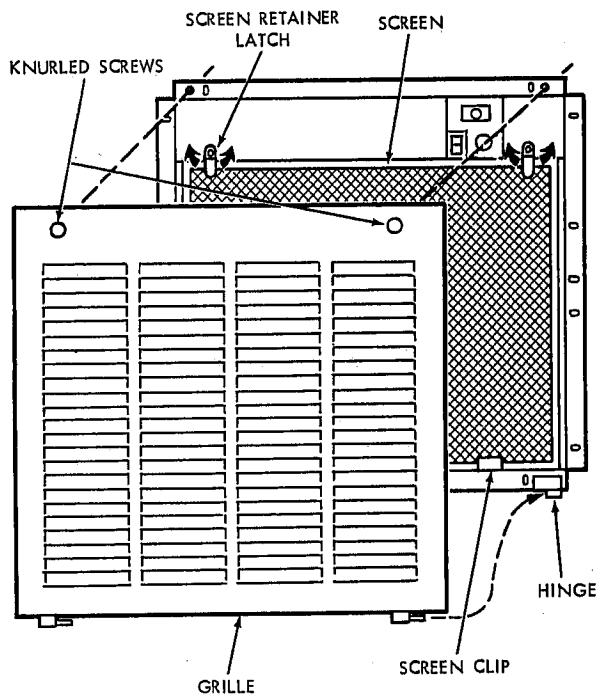

Figure 2
3. Release two knurled screws (FIG. 2) at upper edge of grille, open grille and slide it out of hinges at bottom by moving it to the left.
- c. Install electrical enclosure cover with three screws. (See figure 2.)